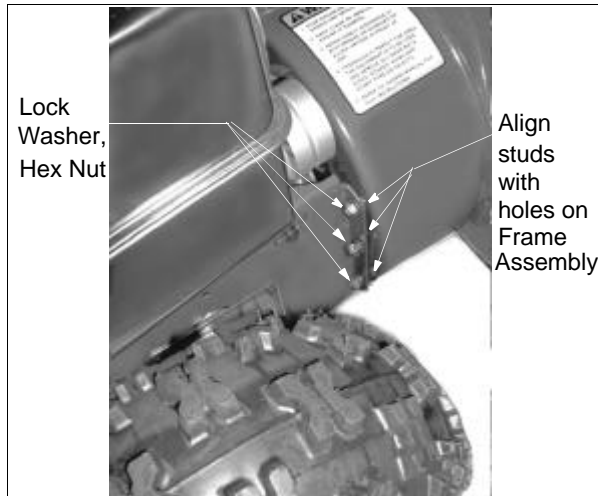

Figure 18
3. Remove the six hex nuts and lock washers which attach the auger housing assembly to the frame assembly. See Figure 18.